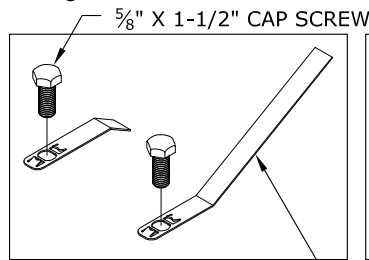

FIGURE C1: Bolt Guides
1. **Assemble bolt guides.** Assemble the bolt guides by threading a  $\frac{5}{8}$ " bolt onto each guide as shown in figure C1 and C2. Tighten the bolt onto the guide so that the shoulder of the bolt head is flush with the surface of the bolt guide. This is designed to be a tight fit. A wrench may be needed to thread the bolts onto the bolt guides. The notches of the bolt guide must engage the corners of the bolt head so that the bolt is prevented from "backing off" of the guide. The notches of the bolt guide may have to be pried up if they were smashed down when the bolt was tightened down.